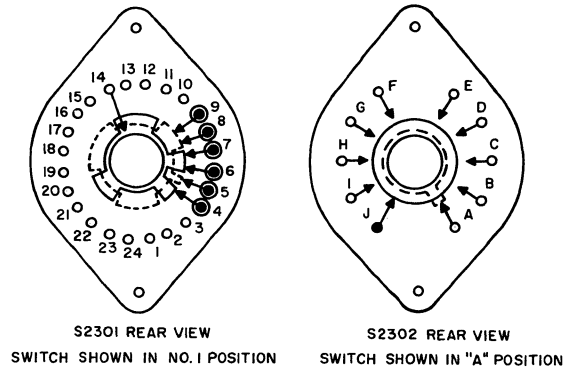

Figure 6-20. Remote Control Unit 614D-1,
setting of the channel selectors. Figures 6-20 through 6-23 illustrate the switch wafers of the respective Remote Control Units in the A1 position (2.0 megacycles) as viewed from the front of the unit. Align the Remote Control Units according to the following procedure:
a. Set the Remote Control Unit in the A1 position (2.0 megacycles), and compare the switches to either figure 6-20, 6-21, 6-22, or 6-23, depending on the Remote Control Unit being aligned.
c. Rotate the channel selectors of the particular Remote Control Unit in use so that the switch wafers compare with either figure 6-20, 6-21, 6-22, or 6-23 (depending on the control being aligned).